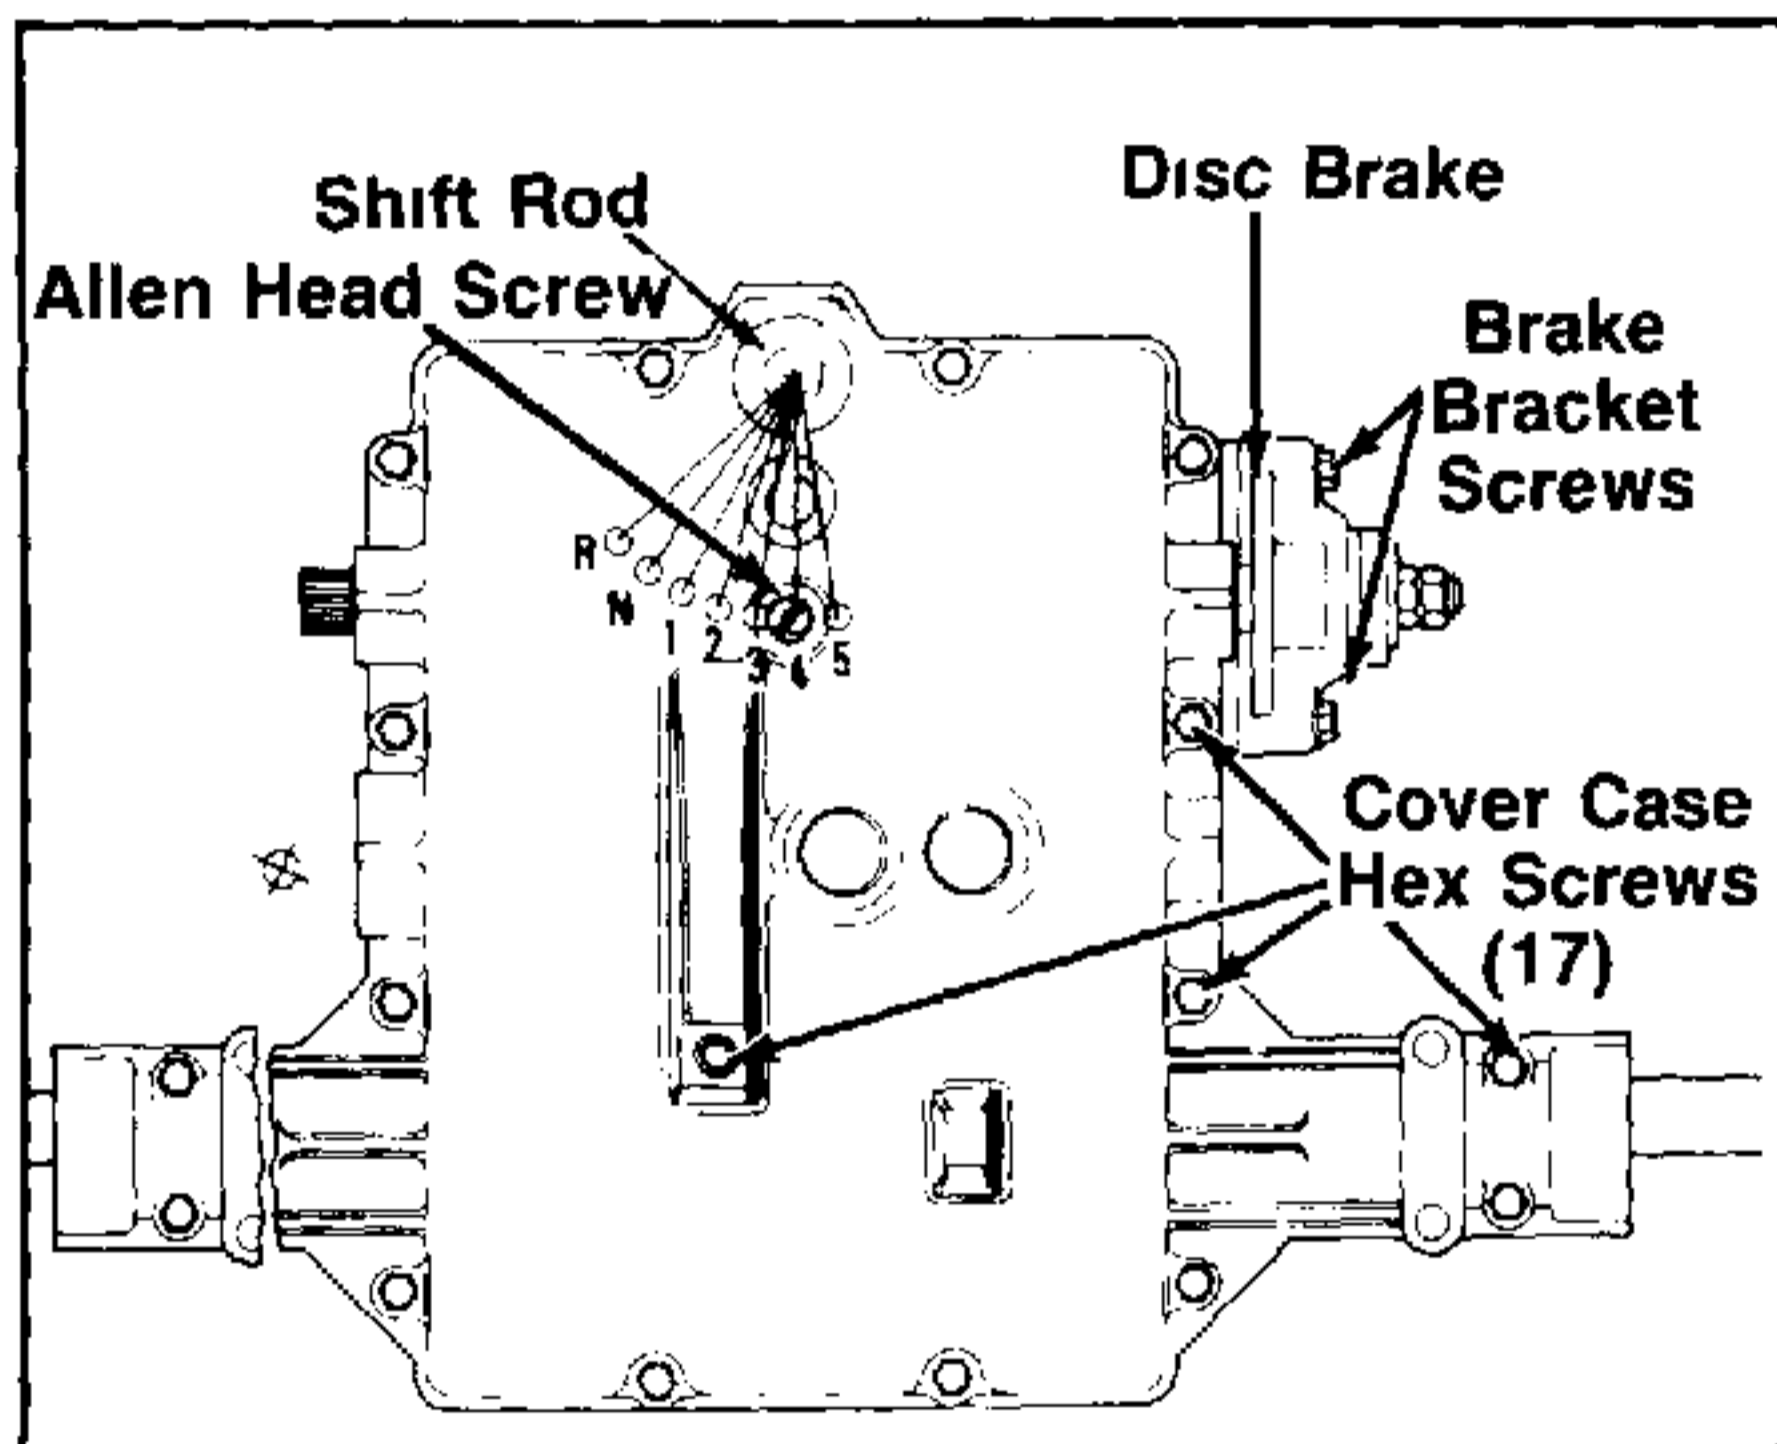

FIGURE 14
- 3 Remove two brake bracket screws, and remove brake assembly. See figure 14.